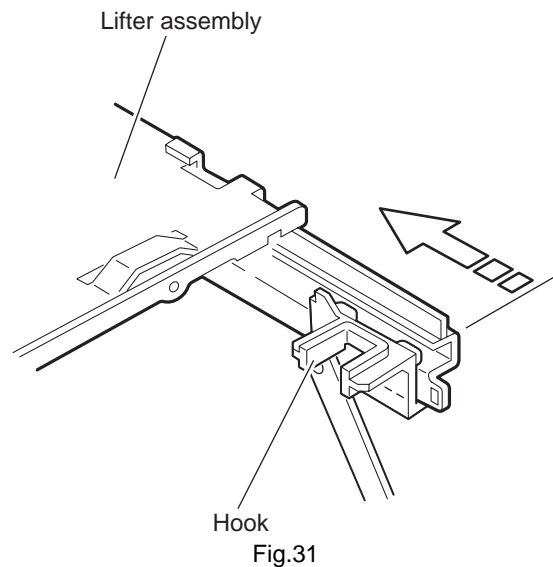

Fig.31
- (7) Move the lifter assembly in the direction of the arrow and release it from the hook. (See Fig.31.)